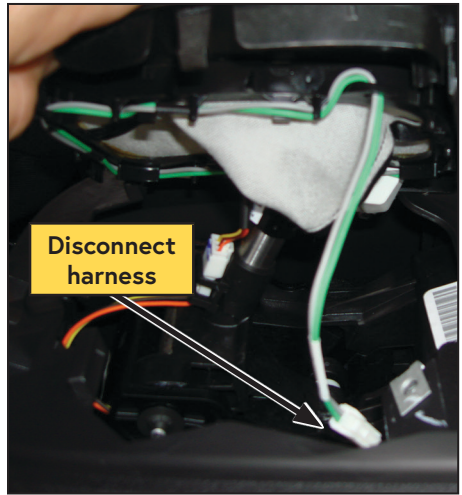

Figure 51 — Remove gear selector insert
- Gently pry the gear indicator plate up, reach underneath and disconnect the plug (on the passenger side) to allow enough room to pull the boot up the shifter (Figure 51).